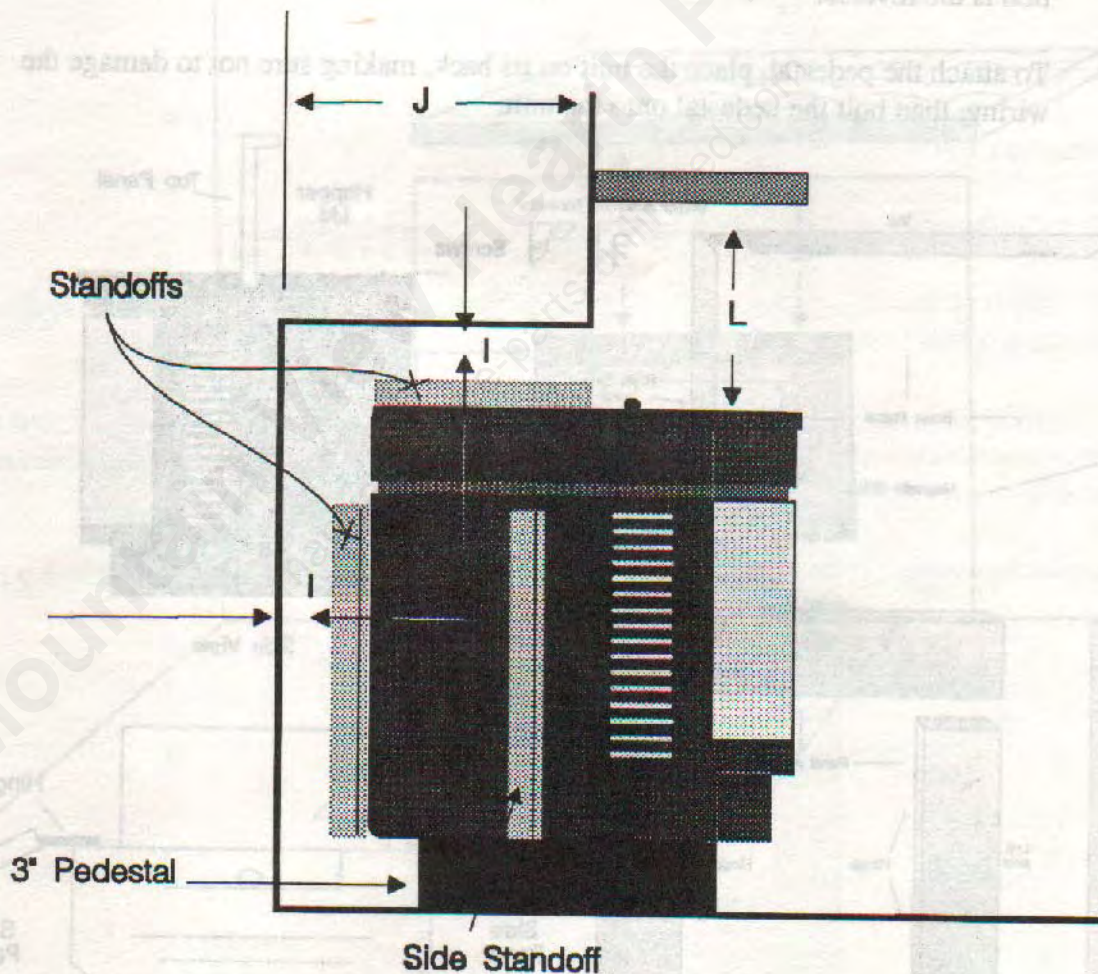

Fig. 13
**MINIMUM CLEARANCES TO COMBUSTIBLE MATERIAL:** See figure 13.
- (I) Sides and rear .....0" to standoffs
- (J) Depth .....11" (275 mm)
- (L) Mantle to unit .....8" (200 mm)